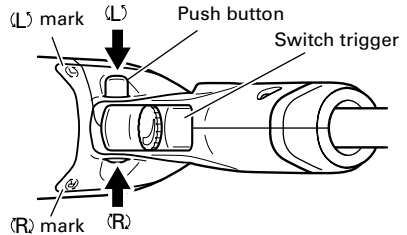

Fig. 5
**6. Check the rotational direction (Fig. 5)**